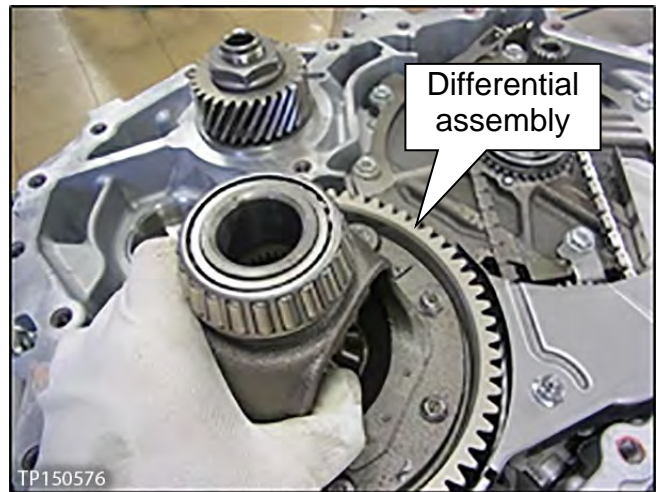

Figure 76
18. Install the differential assembly into the CVT case (see Figure 76).